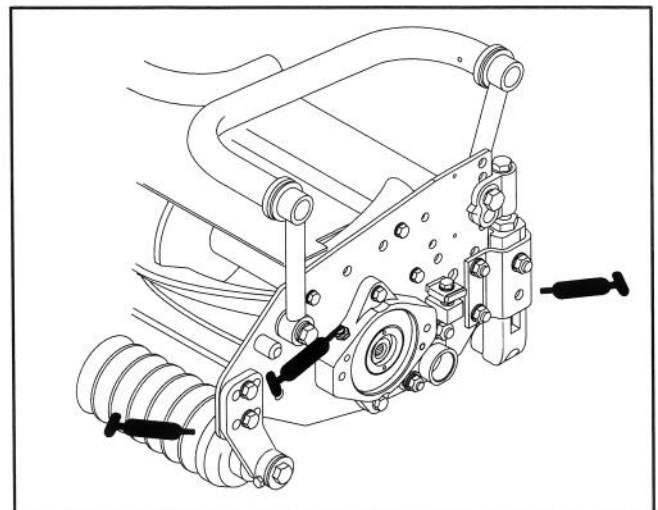

Figure 12
Each cutting unit has (6) grease fittings (Fig. 12) that must be lubricated regularly with No. 2 General Purpose Lithium Base Grease.
1. The grease fitting locations and quantities are: reel bearings (2) and front and rear rollers (2 ea.)